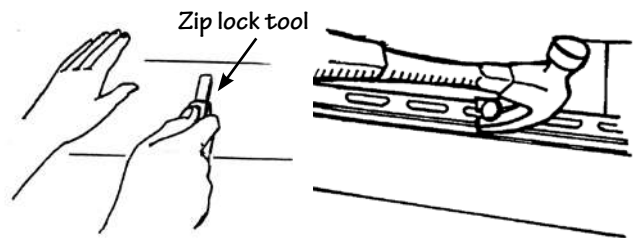

Figure 76.
- Slip the zip lock or unlocking tool behind the bottom of the panel above the one to be replaced and unzip it from the lock on the damaged panel (Fig. 76).